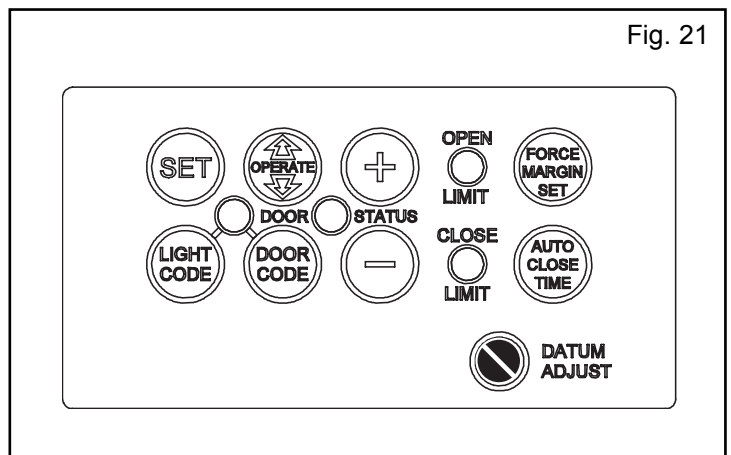

Fig. 21
1. Press red Minus (-) button and hold it, the door will start closing. Release the button once you have reached your desired closed limit position. (Fig. 21)
1. Press and hold the Close button (Fig. 21) for six (6) seconds until you hear three beeps and the red Close Limit LED starts to flash. Release the button.